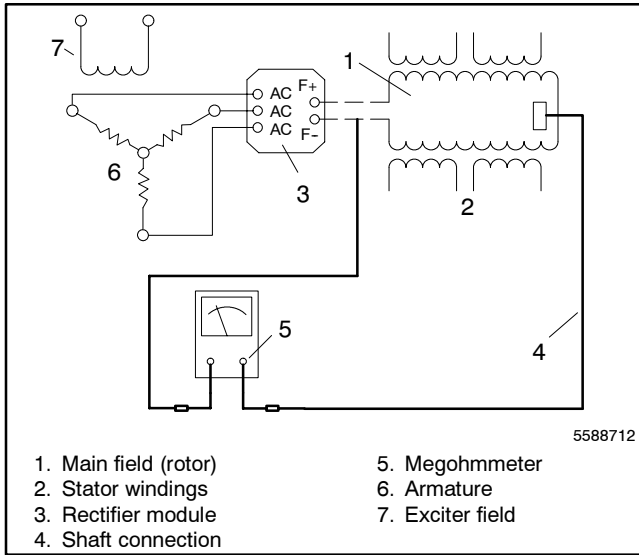

Figure 7-12 Megohmmeter Connections on Main Field
5. Check the main field for a grounded condition by using a megohmmeter. Apply 500 volts DC to either field lead and the main field frame. Follow the instructions of the megohmmeter's manufacturer when performing this test. See Figure 7-12. A reading of approximately 500 kOhms (1/2 megohm) and higher indicates the main field is good. A reading of less than approximately 500 kOhms indicates the deterioration of the winding insulation and possible current flow to ground. Repair or replace the main field.